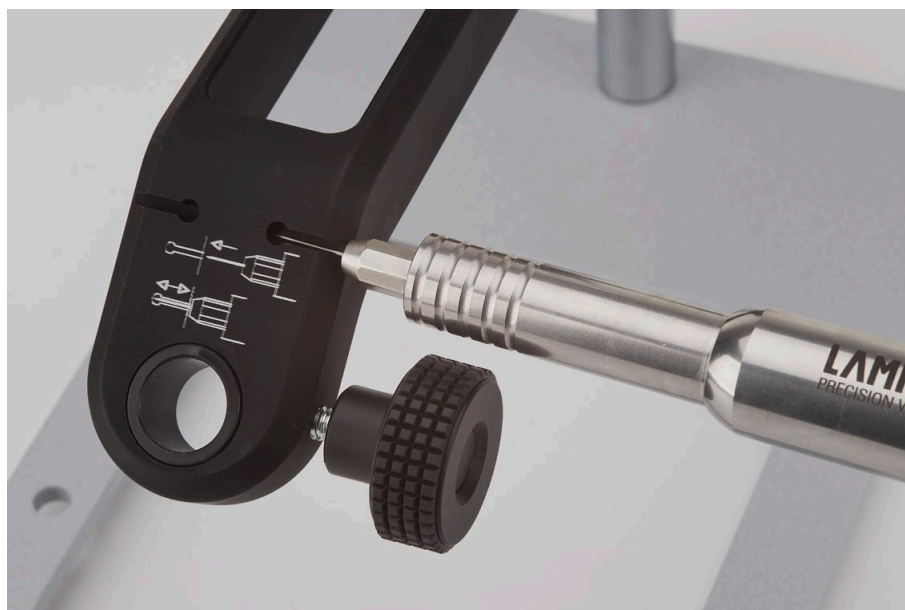

Fig. 5.2 Adjusting electrode length with handpiece holding arm
- Insert the new tungsten electrode into the collet and adjust to the correct length. If you have a Lampert welding microscope, you can measure the electrode length on the handpiece holding arm. To do this, insert the electrode into the milling on the right or left as far as it will go. The clamping nut must rest against the outer edge of the holding arm. Now hand-tighten the nut and fit the argon nozzle. (See Fig. 5.2)